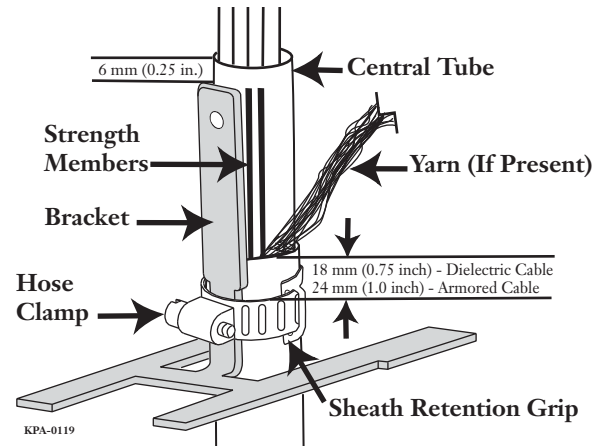

Figure 7 — Strain-relief Bracket
Step 2: Tighten the hose clamp in the notch on the bracket with the tensioning body on the hose clamp against the bracket (Figure 7). Tighten hose clamp to a torque value of 30 in-lb.
Step 1: Trim the strength member(s) on one side of the ribbon flush with the end of the strain-relief bracket (Figure 7).